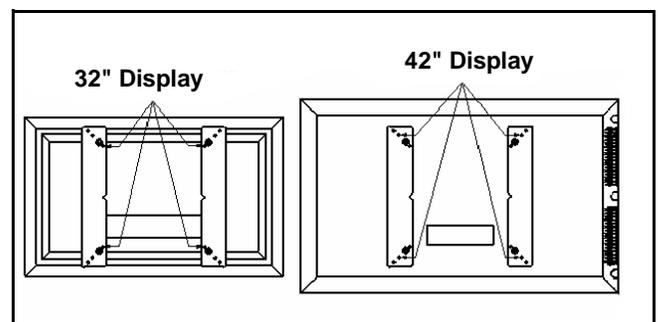

Figure 8: Bracket Attachment Location
4. Attach mounting bracket to the display (see figure 8), as follows: